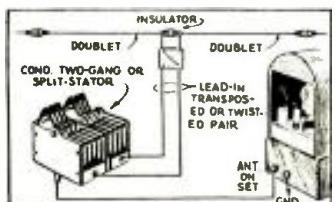

Fig. 2. Connecting a S.W. doublet.
**C**ONNECTING A SHORT-WAVE DOUBLET. A lead-in of the transposed type or of the twisted type may be efficiently coupled to a set not provided with doublet antenna posts, as shown in Fig. 2, by utilizing a 2-gang or a split-stator condenser. The capacity of each section should be about 100 mmf. and is not at all critical. The condenser may be mounted out of sight, since once the adjustment is made it need not be changed, unless a "dead spot" is encountered, in which case a small change of capacity will cure the trouble.